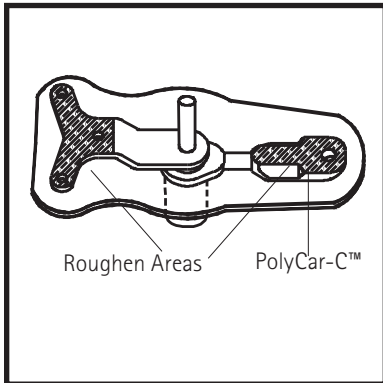

Figure 4: PolyCar-C™ Placement
7. Roughen underside of the ankle joint with sand paper as shown in Figure 4. Clean both ankle joints and PolyCar-C™ with a solvent or alcohol to remove dirt and oil.